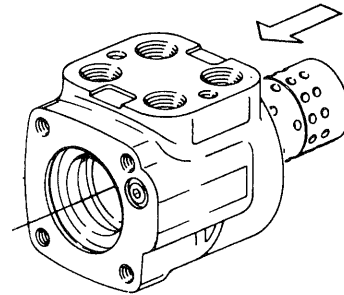

Fig. 141
- (11) Keep pin (20) horizontal and carefully slide spool-sleeve assembly (17) (18) straight into housing (Fig. 141) while slightly turning the assembly clockwise and counterclockwise until flush with rear face of housing. Then, check that the assembly can be rotated smoothly in housing.